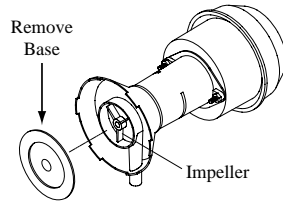

Fig. 12
• **Clean pump.** Cleaning the pump is necessary once a year at start-up. For your safety, turn unit off and unplug motor and pump. Remove the pump from the mount slot. Remove the base of the pump as shown in Fig. 12. Clean the pump and turn the impeller to ensure free operation. Remove the pump